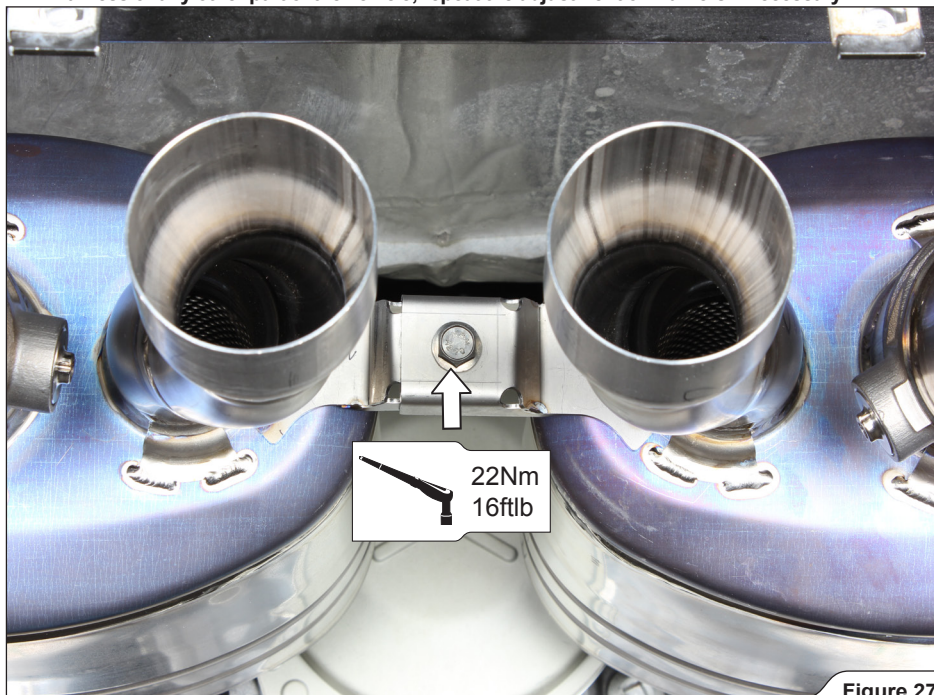

Figure 27
- Adjust and center the mufflers, tighten the muffler connection (using bolt, washer and nut from Akrapovič installation kit) and all adapter clamps to the specified torques (**Figure 27, 28**).